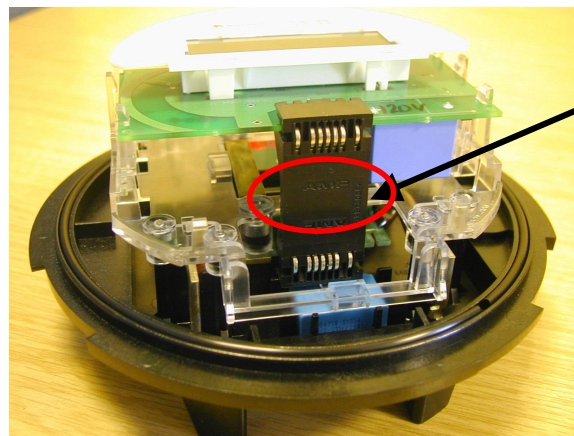

Figure 4: Removing the board to board connector
6. Remove the black board-to-board connector between the upper circuit board (if present) and the metrology board. Grasp the board in the middle, lengthwise, and pull out by moving from side-to-side (see Figure 4). To maintain the integrity of the connector, only remove it when fitting TransPondIT.